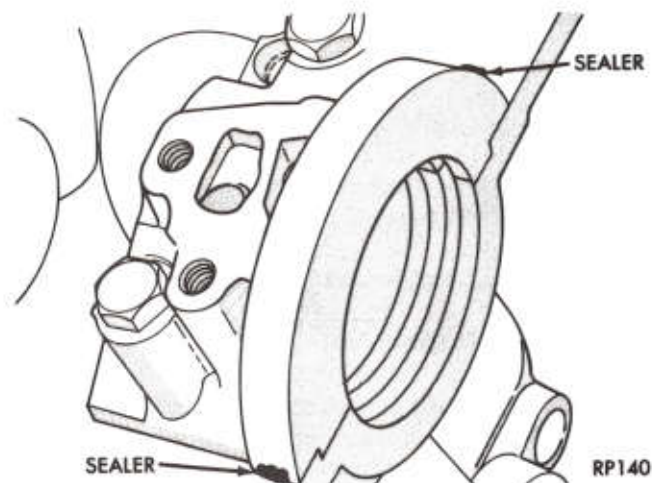

Fig. 52—Oil Pan End Seal at Rear Bearing
(6) Reinstall oil pump. Add sealer at bearing cap to block joint (Fig. 52) to provide oil pan end sealing. Install oil pan.